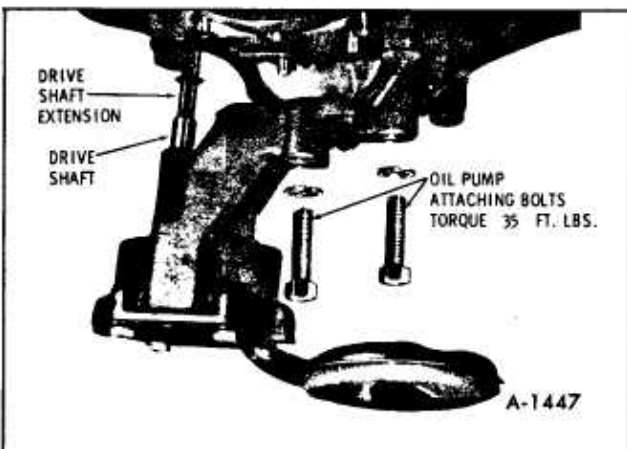

Figure 35—Oil Pump Installation
2. Position pump onto the rear main bearing cap replace rear oil deflector and install attaching bolts. Torque bolts to 35 ft. lbs. See Figure 35.